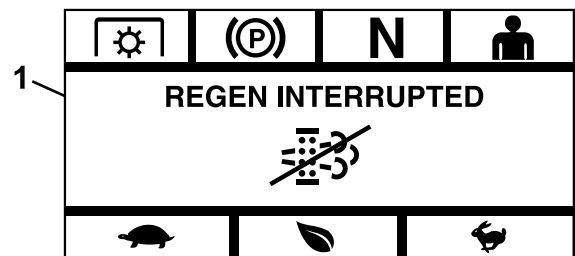

Figure 18
- **Interrupted**—if you interrupt the process, the module displays the Regen Interrupted screen (Figure 18).